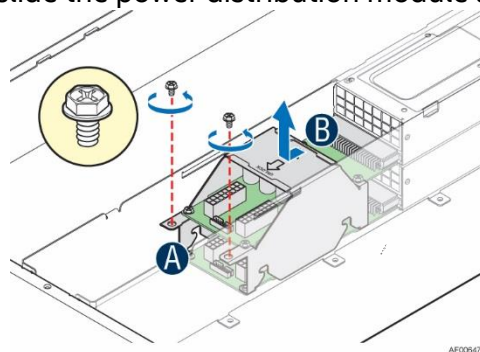

Figure 56. Removing the power distribution module
3. Remove the two screws (A) and slide the power distribution module and lift it (B) as pictured in Figure 56.